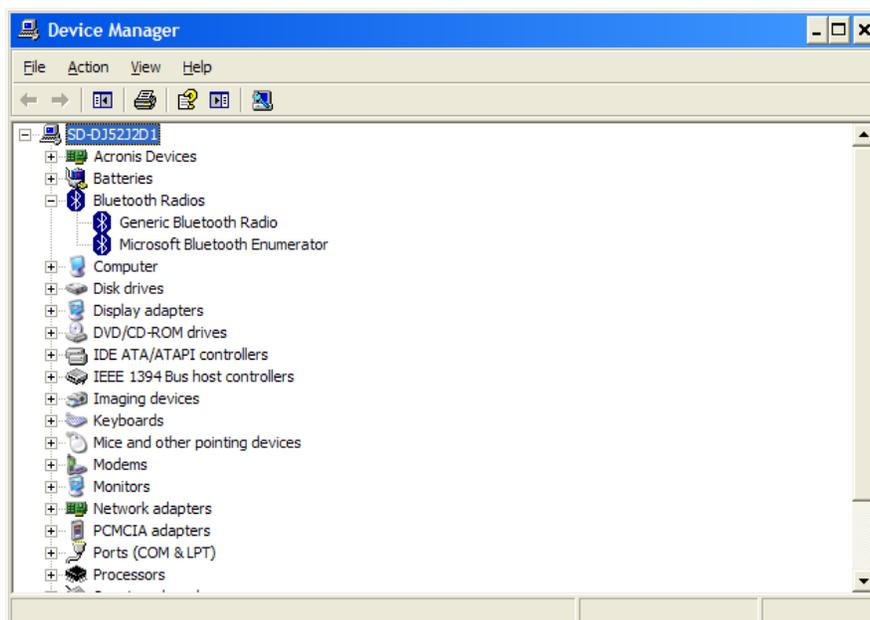

Figure 36 – Windows Device Manager
- For XP and Vista, the **Device Manager** will be similar to Figure 36.
- The exact drivers shown will vary depending on the operating system and the specifics of your computer, but it is likely to look something like Figure 36.